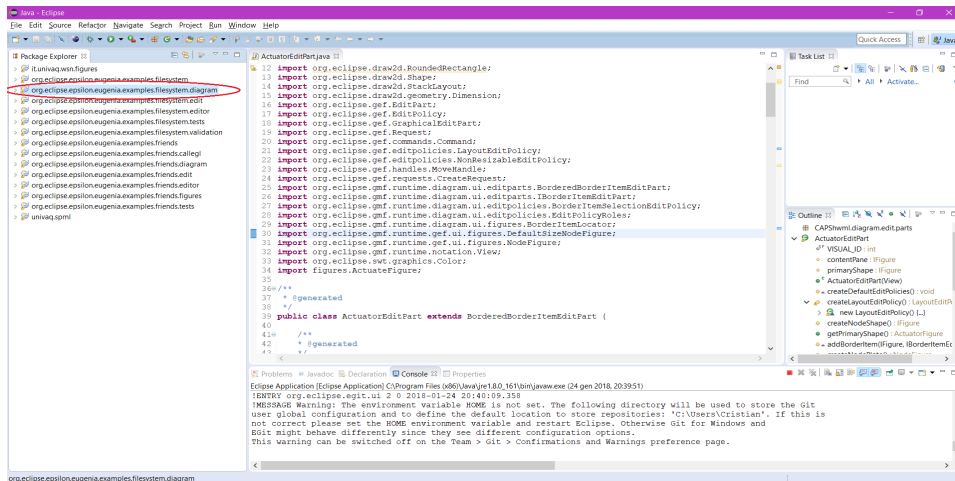

Figure 1.2: The package you have to right click on
- Right click on **org.eclipse.epsilon.eugenia.examples.friends.diagram** (figure 1.2);